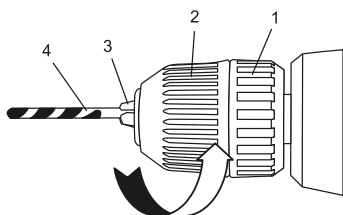

Fig. 3
1. To open the keyless drill chuck, grasp and hold the chuck collar (1) with one hand (Fig. 3). Rotate the chuck body (2) in a counterclockwise direction until the chuck jaws (3) open wide enough to accept the bit (4).